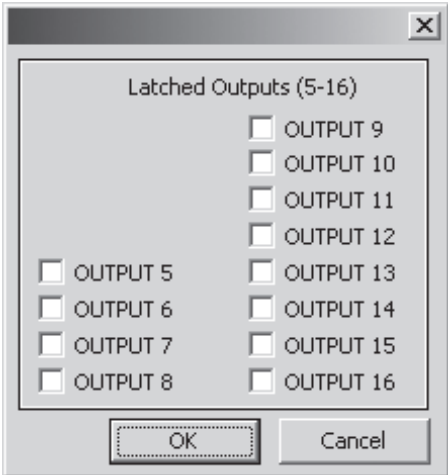

Figure 4-24 Latched Outputs Selection Screen
11. Select **Outputs** from the **LATCHED OUTPUTS** section of the System Setup screen. ISScom® will display the Latched Outputs Selection Screen (Figure 4-24).